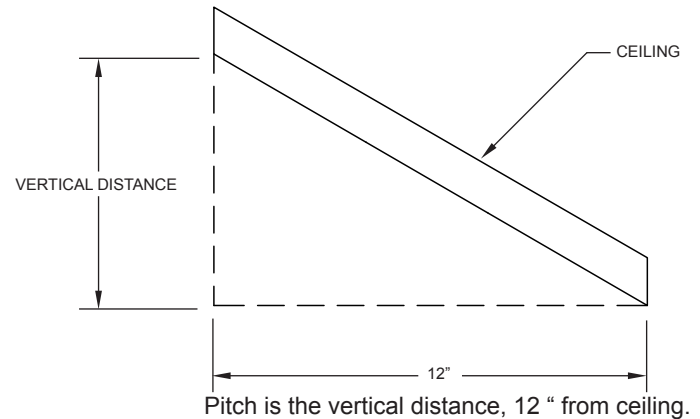

FIG. 16
4. Locate the TGAS over the framed opening in the roof. Nail the brackets to the framing using a minimum of two (2) #8 nails per bracket.
8. The interior opening in the ceiling may be trimmed with a TGPCP. Select the appropriately shaped trim plate for your ceiling pitch (slope). Slide the trim plate over the opening and secure to the ceiling. Determine ceiling pitch as shown in FIG. 16.